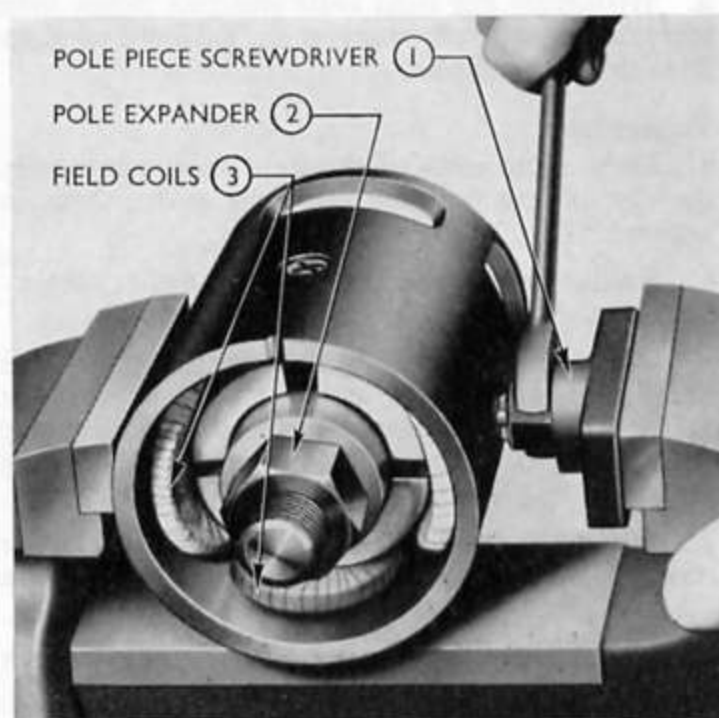

Fig. 11
3. **Locate the pole piece expander** CP.9509 in the starter yoke and tighten the nut to expand the tool against the pole pieces. Mount the starter yoke and pole piece screwdriver CP.9504 in a vice as shown in Fig. 11, and slacken the pole piece screws one at a time. Finally, remove the screws with a crosshead screwdriver.